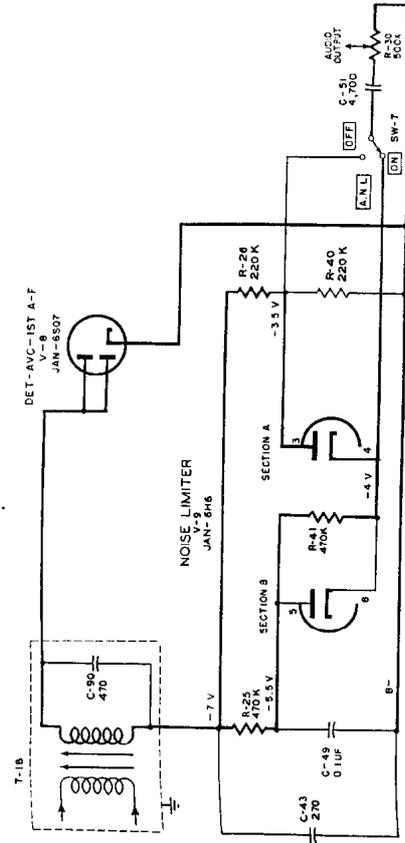

Figure 25. Noise limiter, simplified circuit diagram for preliminary explanation.
56. Noise Limiter (figs. 25 and 26)
a. GENERAL. The noise limiter (V-9) is of the series type and is designed to suppress any pulse type of noise interference which is picked up by the antenna and amplified through the radio receiver up to the detector. A.N.L. OFF-ON switch SW-7, shown in figure 25, switches the noise limiter twin diode either into the circuit or out of the circuit. With this switch in the OFF position, the audio output from the detector stage is taken from the junction of the two detector load resistors, R-26 and R-40, and applied through the audio coupling capacitor, C-51 across A. F. GAIN control R-30. The movable contact of R-30 applies the af to the grid of the triode audio section of tube V-8. The detector circuit then functions similarly to the detector circuit in a conventional radio receiver, using a normal half-wave diode detector. However, when the noise limiter switch is in the ON
position, the audio signal must travel through section A of tube V-9 (pins 3 and 4) to reach capacitor C-51 and the gain control. This diode acts as an automatic switch; opening on short, strong noise pulses to prevent the noise from reaching the first audio amplifier stage. Resistor R-27 (fig. 40) is the cathode resistor of the triode audio section of tube V-8, and C-44 is the cathode bypass capacitor; these parts are not shown in the simplified circuits of figures 25 and 26 because they are not important to the function of the noise limiter circuit.
(1) Figure 25 shows the noise limiter in operation when there is a normal signal present but no noise. Rectification of the i-f signal in the detector (V-8) causes a direct current to flow through load resistors R-26 and R-40. Note that the series-parallel combination of resistors R-25 and R-41 and diode section A of tube V-9 is in parallel with load resistor R-26. Current flows through resistor R-26 in the proper direction to make the cathode of diode section A more negative than the plate; hence, this diode will conduct and there will be a small current flow through resistor R-25. Since diode section A conducts, the audio signal developed across detector load resistor